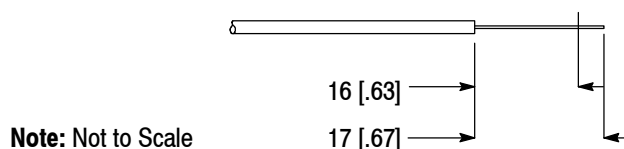

Figure 2
2. Refer to the "OPTIMATE 2.5mm Bayonet (Polymer Composite)" strip length template (from the cable preparation template kit) or refer to Figure 2, Detail A, and using the cable stripper, strip the jacket to the dimension shown. Using the shears, trim the strength members to dimension shown. Using the fiber stripper, strip the buffer, then the coating to the dimension shown.
2. Strip the buffer and/or coating so that 16–17 mm [.630–.670 in.] of bare-glass is exposed, refer to the strip template, or Figure 2, Detail B.